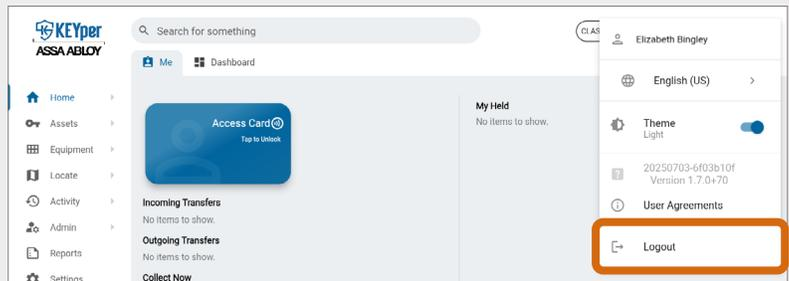

Fig. 141 – Select Logout from the Profile dropdown menu
1. Select **Profile** , then select **Logout**, as shown in Fig. 141.